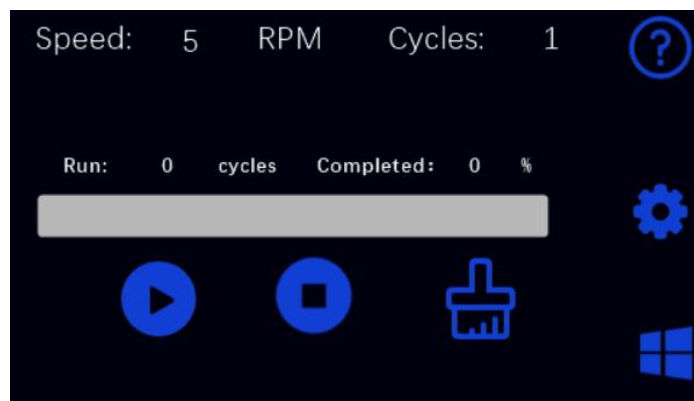

Fig 6.3
- 6.5.8 The display will show the main interface as shown in Figure 6.3. Click or use voice control to check the operation status.